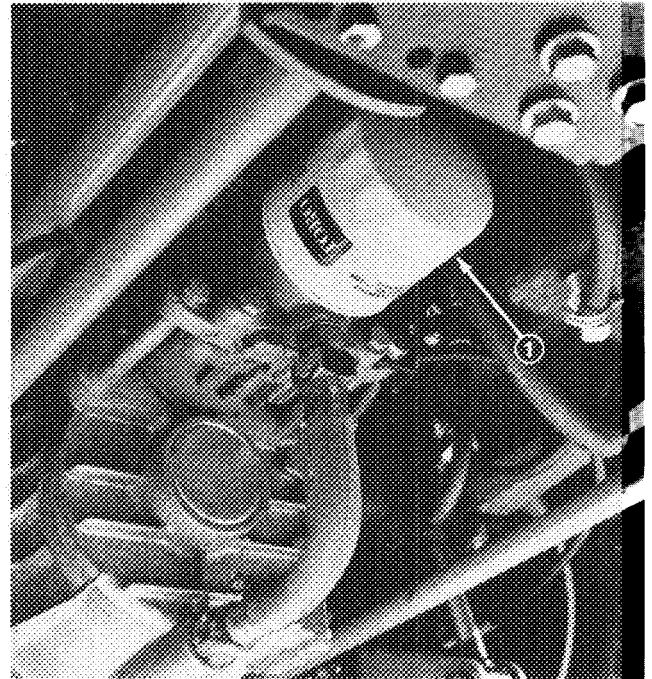

Figure 42
3. Clean the area around the hydraulic oil filter and remove the filter (Fig. 42).